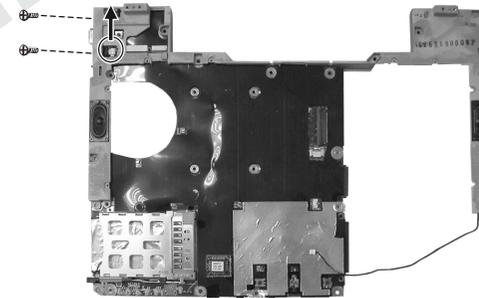

Figure 2-30 Free the system board
3. Disconnect the one speaker's cables from the system board and remove the two screws, Then separate the bracket and free the system board. (Figure 2-30)